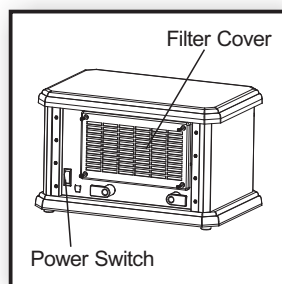

Figure 5
- Turn on the **Power Switch** in the rear of the unit. (Figure 5)
- There will be a "beep" sound and **Power Light** will come on indicating that there is power to the unit. The **Power Light** will remain on until **Power Switch** is turned off. (Figure 5)
- Turn off heater, then locate the filter at the rear of the heater. Loosen the 4 screws to remove the filter cover and take the filter out of the bracket. (Figure 5)